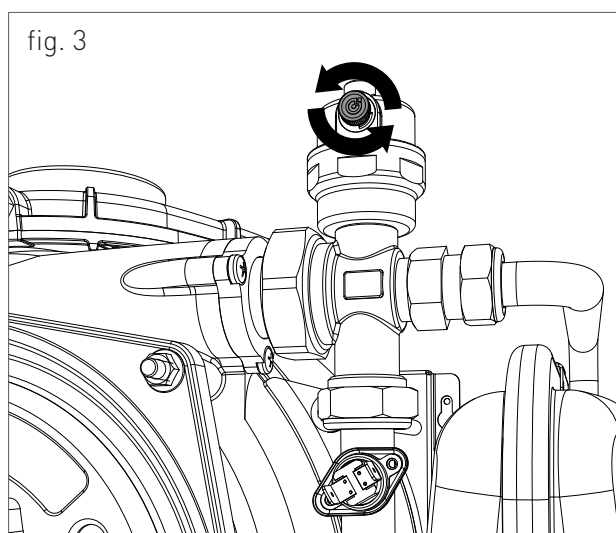

fig. 3
2. slightly loosen the cap of the jolly valve placed on the top of the condensing block (fig. 3) to release the air from the top of the system;